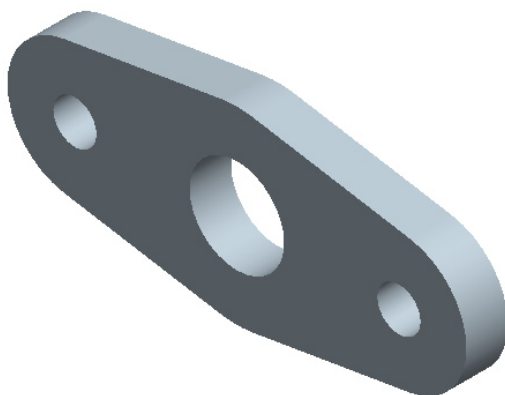
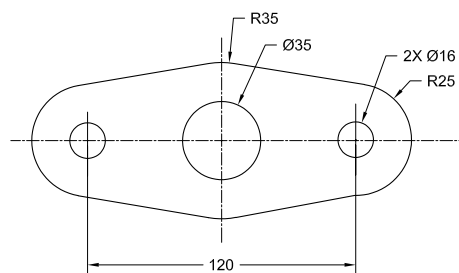

Figure 3-26 Model for Tutorial 2
Figure 3-27 Sketch of the model
In this tutorial, you will draw the sketch for the model shown in Figure 3-26. The sketch is shown in Figure 3-27. **(Expected time: 30 min)**
3. Clear the **Regenerate** check box and then modify the values of the dimensions, refer to Figure 3-27 for dimension values.